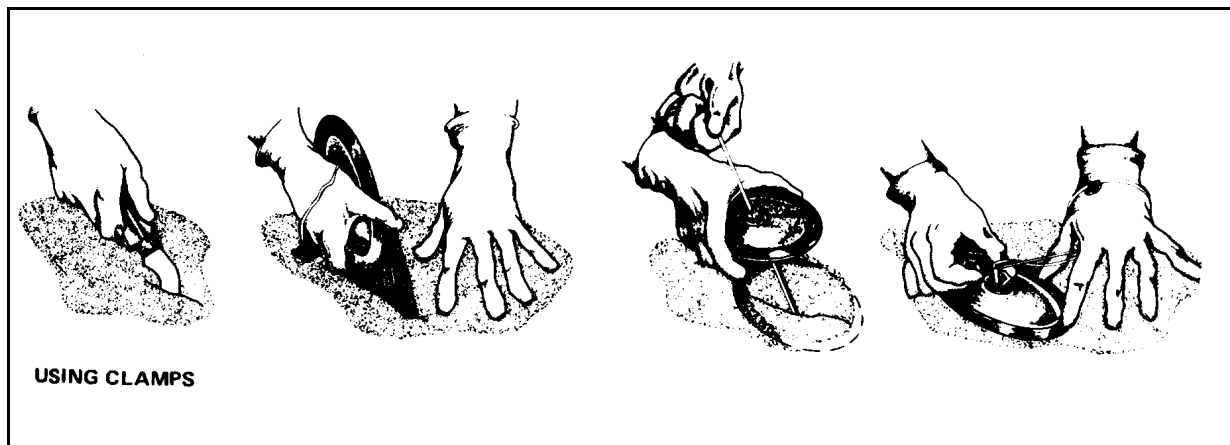

Figure 12-12. Repairing a collapsible tank using clamps
- Select the correct size sealing clamp. The shorter side or width of the bottom plate of the clamp should fit through the hole or tear. It may be necessary to enlarge the hole or tear slightly by using a knife to insert the bottom plate as shown in Figure 12-12.